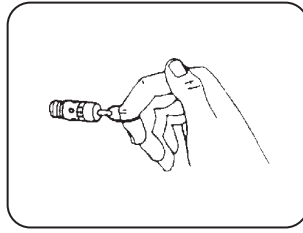

FIGURE 9.2
11. Check manual or automatic purger functioning (Figure 9.2) (time button setting at the purger or parameter P100 and P101, setting, according to product version).